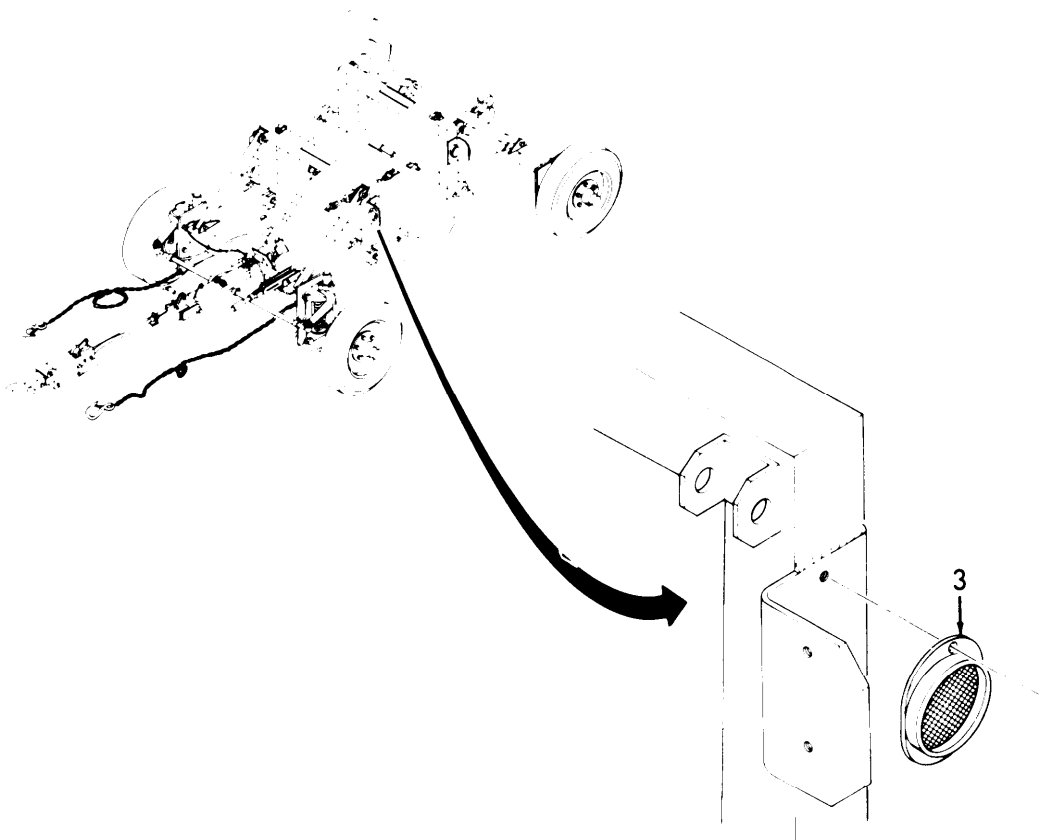

Figure 3-13. Reflector, Removal.
- a. *Reflector Removal.* To remove any reflector remove two screws (1, Figure 3-13) two lockwashers (2), and reflector (3).